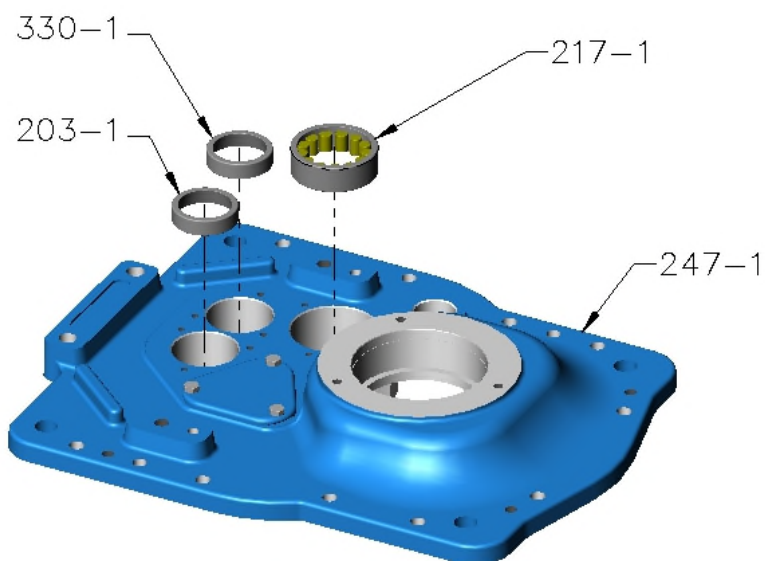

Figure 11 – Bearing races in case lid
P. At case lid remove following items (refer Figure 11):